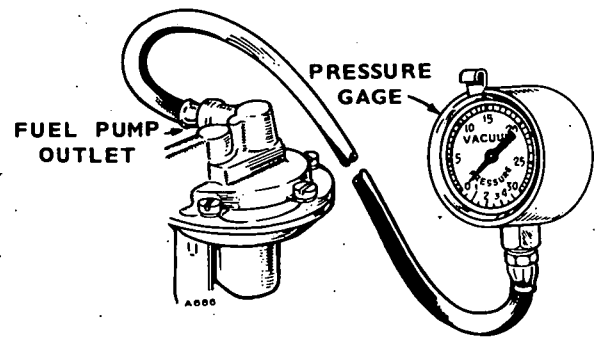

FIGURE 15. FUEL PRESSURE GAUGE
**Testing:** If the transfer pump delivers fuel, test it with a pressure gauge or manometer. Perform these tests before removing the pump from the engine. Remove the pump outlet and install the pressure gauge (Figure 15).